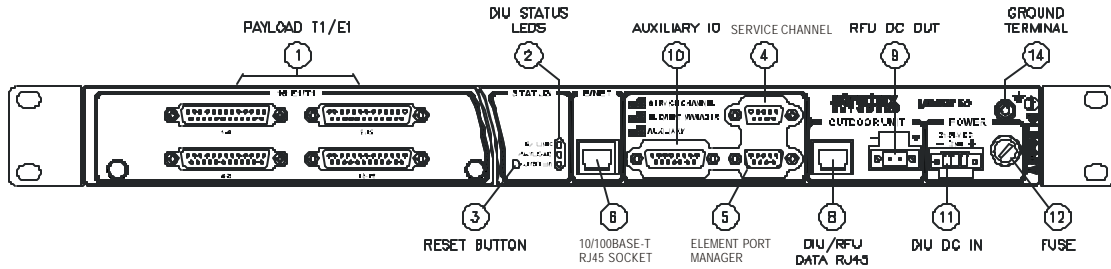

Figure 3-7. Velox LE 50 DIU Front Panel with Payload Interface Panel
- Velox LE 50 DIU, (see Figure 3-7 on page 3-3. Note that there are no controls, indicators or connectors on the back panel of this DIU).